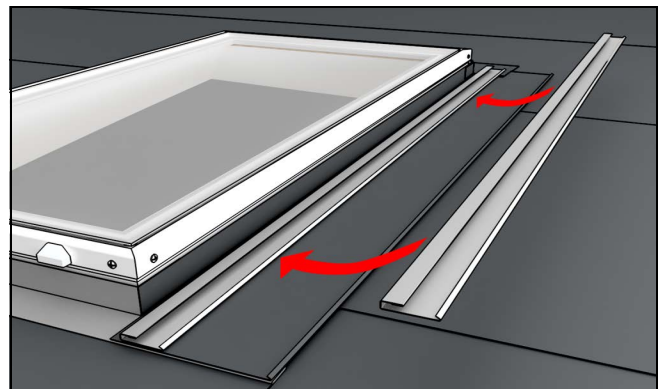

Figure 56
**5.** Place J-channel with the bottom flush with jamb flashing. J-channel can be positioned tight against side of jamb flashing or moved away from unit to accommodate seam cut back. Top of J-channel is cut to length as needed not to interfere with top metal roof cut out. J-channel will be further secured with roofing screws. See Figure 56.